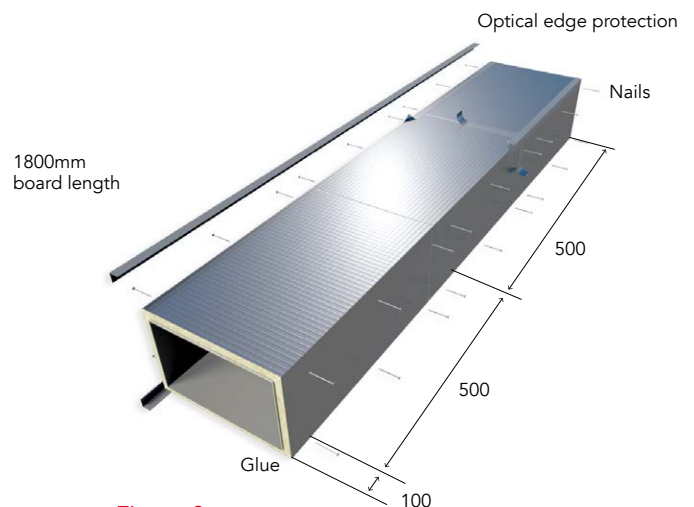

Figure 8
The nail length is to be 2 x board thickness (see Figure 8 for positions).
- A 30 x 30 x 2mm mild steel angle frame fixed to the duct at the penetration mid-point. Steel rivets should be used at 300mm maximum centres (Figure 8),
The method illustrated (Figure 8) for three-sided applications, may also be used for two-sided applications where the duct is securely braced in the corner of a room against non-combustible surfaces.